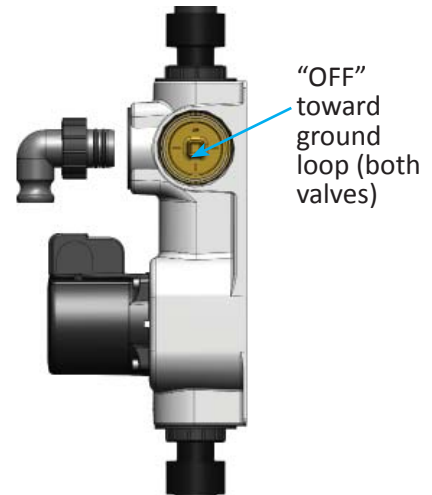

Figure 13: Flow-Link™ Double O-ring flow center valve positions for ground loop isolation
19. Rotate 3-way valves on flow center so that the ground loop is isolated and fluid is directed toward the heat pump only. Figure 13 shows examples of how the valves may be oriented. This will vary depending on the flow center and installation.
4. Rotate the valves on the flow center to direct the fluid to the ground loop only. Figure 13 shows examples of how the valves may be oriented. This will vary depending on the type of flow center installed.